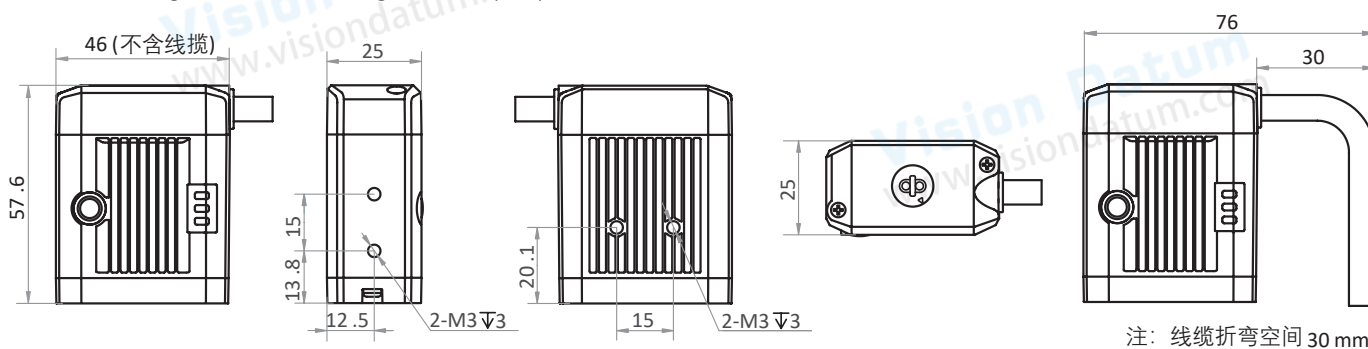

Fig. 1-1: 46 × 57.6 × 25 mm Mechanical Dimensions (in mm) of the Smart Cameras with M12-Monut housing (The installation uses M3 screws).
■ Equipment shown in Fig. 1-1
|  | The open lines of the supplied 17-pin cable cannot be wired with the Fig.1-1 device. |